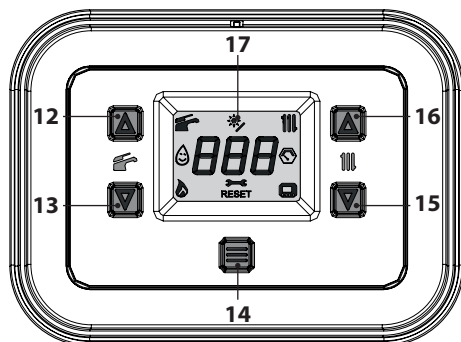
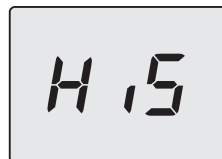
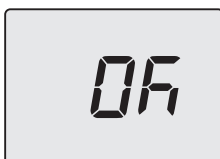

Figure 9.1
Figure 9.2
Figure 9.6
- Enter "programming mode" by pressing the 13 and 15 keys simultaneously for 5 seconds (Figure 9.1) until **HiS** (Boiler History) appears on the LCD display (Figure 9.2).
- Press button 14 (Figure 9.1) to confirm the value entered. The display will show the following (Figure 9.6) for 5 seconds, then move up to the next level.
- press the 13 and 15 keys simultaneously for 5 seconds (Figure 9.1) (return to previous level).